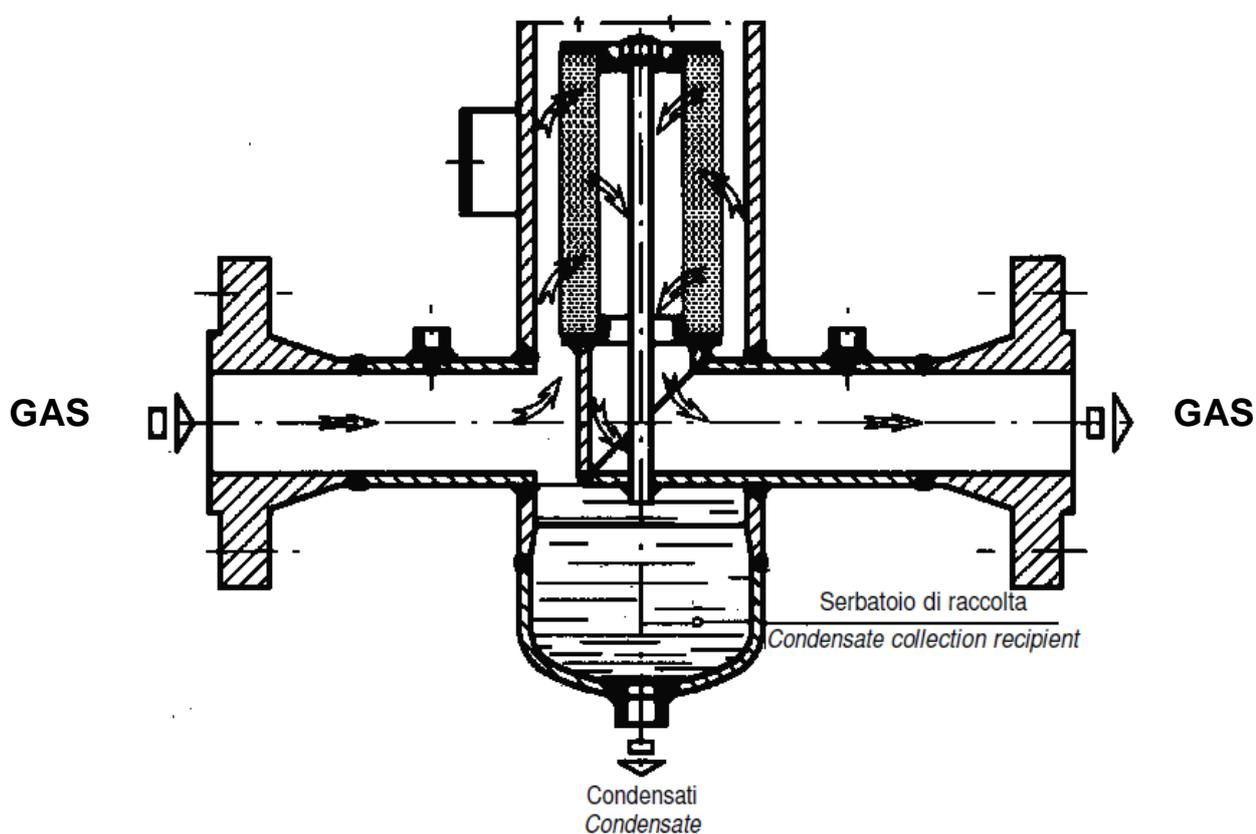

Fig. 1
1.2 OPERATION (FIG. 1)
If there is no arrow, the inlet has direct access to the filter body (also see figure 1).